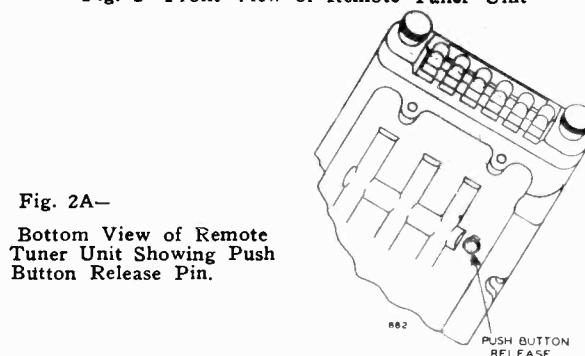

Fig. 2A—
7. When the last pushbutton has been properly set up, it is necessary to release it from the latched-in position before the tuner mechanism can be locked. To release this pushbutton, press the pushbutton release pin on the bottom of the tuner unit. This will trip the latching mechanism and all the pushbuttons will be released to out position, (See Fig. 2A).